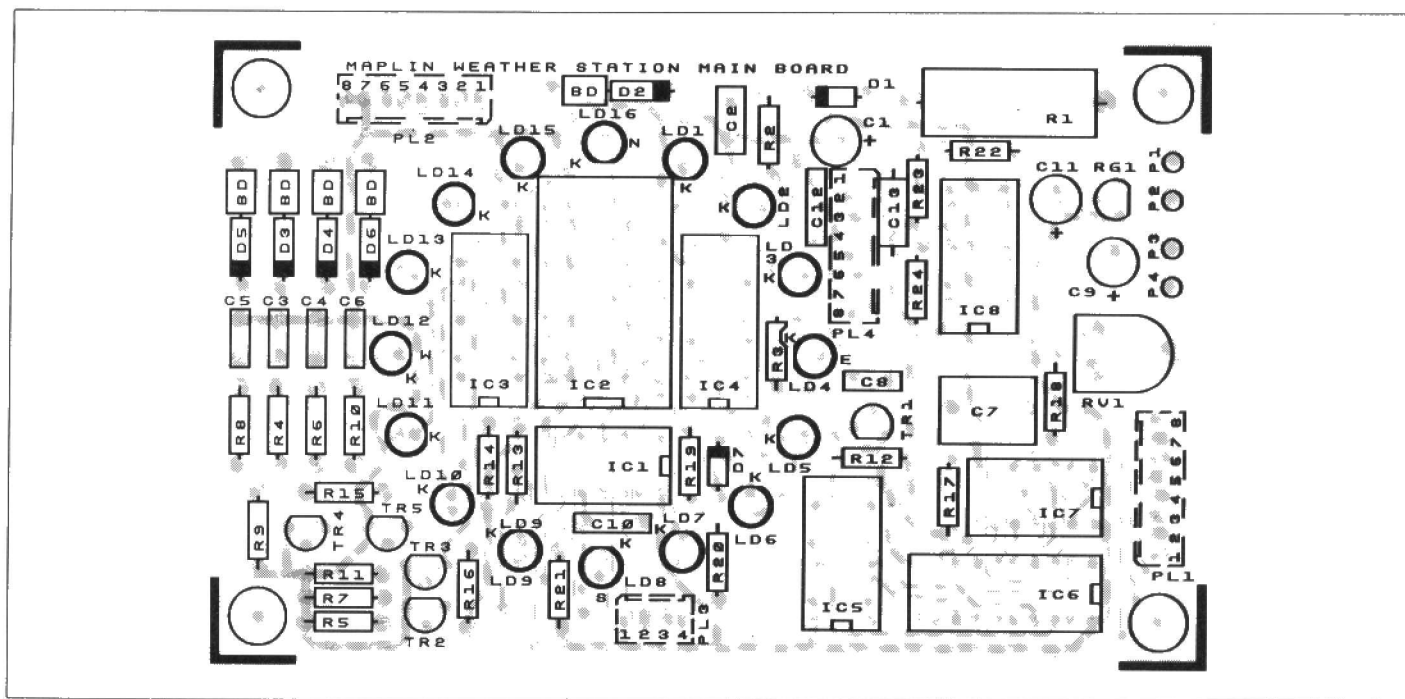

Figure 4. PCB layout.
Refer to Figure 4 and the Parts List and identify the components to be used. I would suggest that resistors are fitted first, followed by IC sockets, transistors and capacitors. Either solder each component in as you go, or solder components in a group; this helps reduce errors and produces a neater finish.
supplied to assist in this exercise and sixteen pieces should be cut 6mm long; check the LED body length first as dimensions given allow for 9mm and sizes may vary. With reference to Figure 4 you will note that the cathodes (K) of each LED have been positioned around the inner side of the circle!